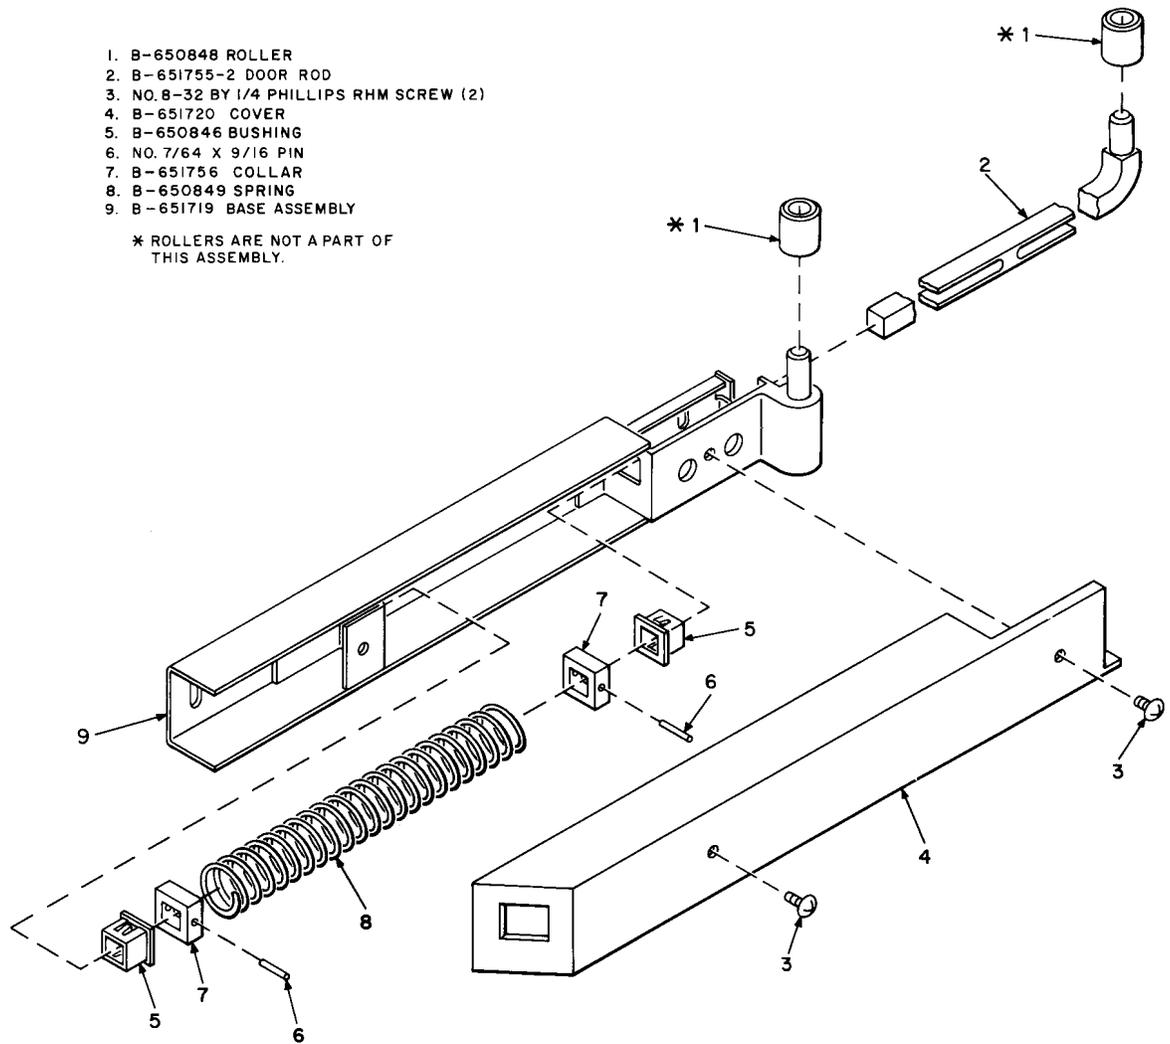

Fig. 4—B-651721-2 Door Guide Assembly
15.04 Fig. 4 shows the B-651721-2 door guide assembly which is a replacement for the older B-650843 assembly. All new KS-19580 booths are equipped with the new assembly. All early model KS-19580 booths should have the old assemblies replaced with the new B-651721-2 door guide assembly. Use three No. 8 by 1/2 Phillips RH self-tapping screws to secure assembly to door frame.